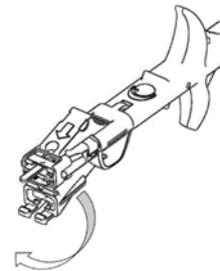

Fig. 2
5. Carefully release the cartridge nozzle from the hook. Make sure you do not damage the nozzle tip. Fold up the cartridge nozzle by 180 degrees until it snaps into place, as shown in Fig. 2.